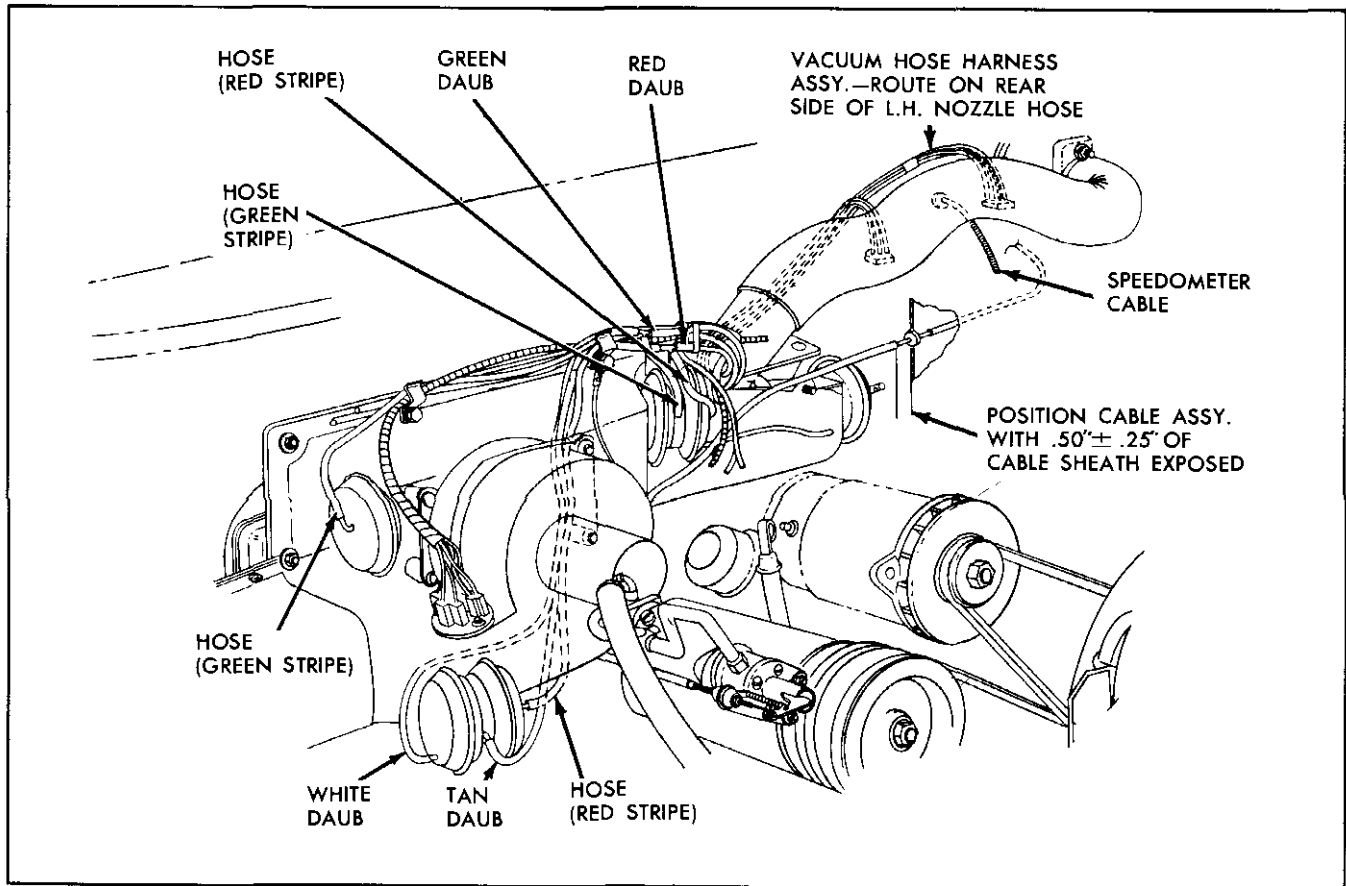

Fig. 6-50 Vacuum Hose Connections at Control Diaphragms
**NOTE:** Connect the vacuum hoses to the control diaphragms as shown in Fig. 6-50.
5. Replace by reversing the above procedure, making sure all vacuum hoses are properly connected (Fig. 6-50) and that wire connectors to resistor are installed.
7. Attach vacuum hoses to diaphragms (Fig. 6-50) and wires to resistor.